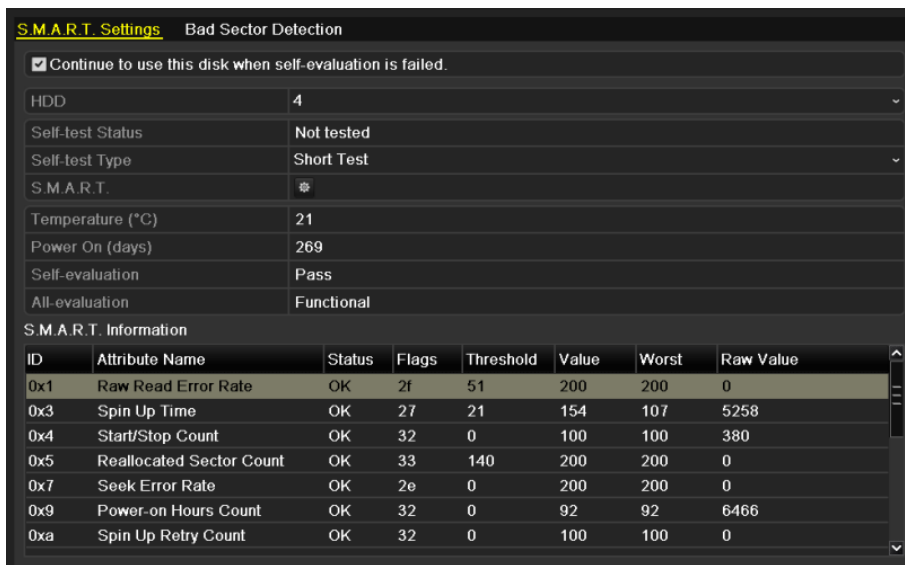

Figure 15-27 S.M.A.R.T Settings Interface
Step 2 Select the HDD to view its S.M.A.R.T information list, as shown in Figure 15-27.